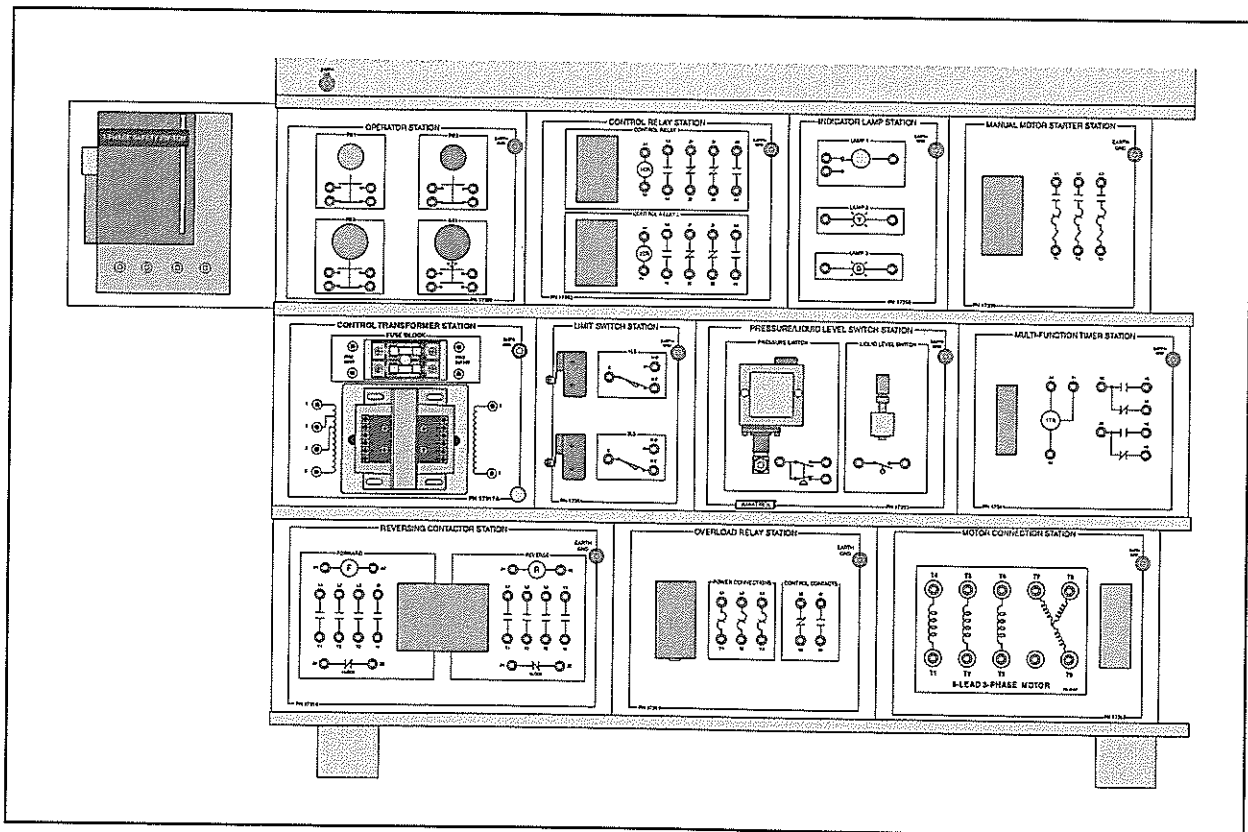

Figure 12. Arrangement of Station Panels
- A. Make sure the station panels are arranged on the trainer, as shown in figure 12.
- A. Make sure the stations are still arranged on the trainer, as shown in figure 12.